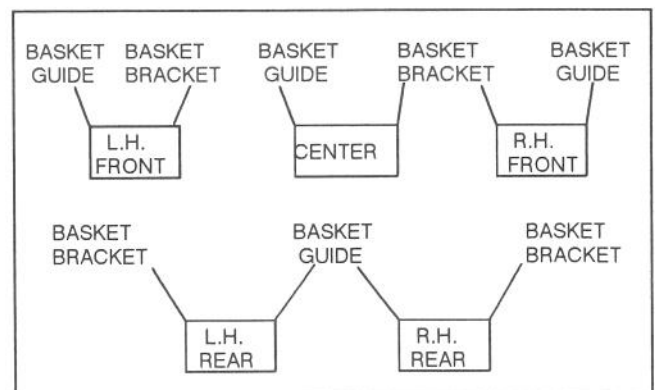
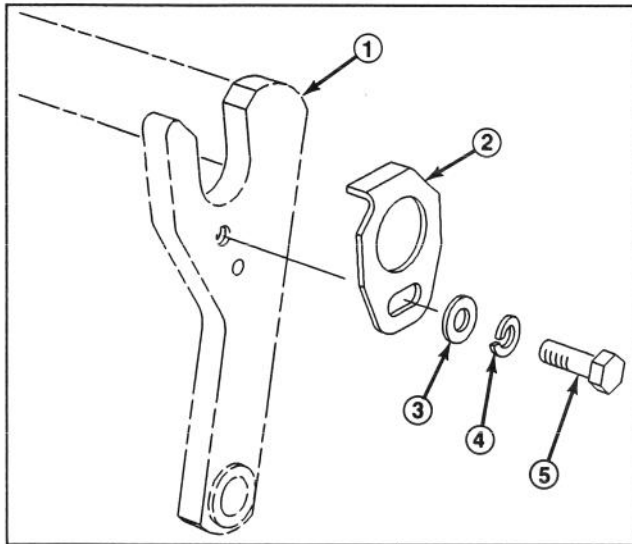
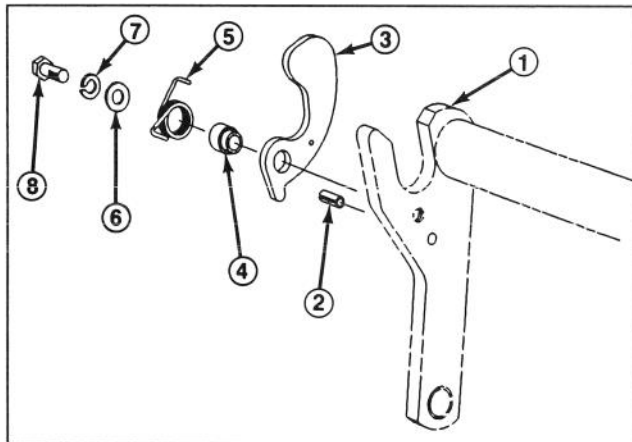
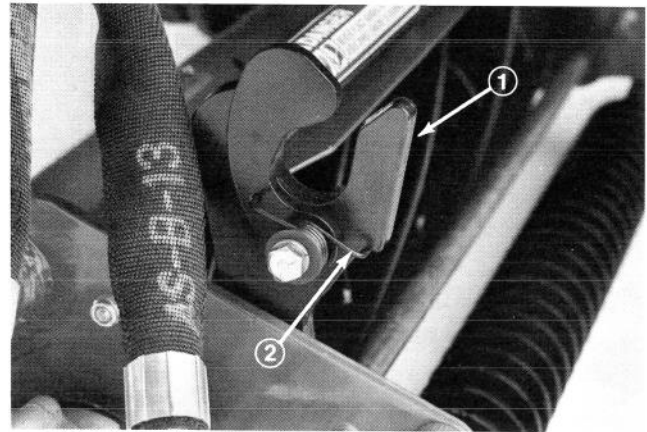

Figure 7
Figure 8
Figure 9
Figure 10
2. Using chart below (Fig. 7) determine the locations at which basket guides or basket brackets must be mounted to cutting unit carrier frames.
3. Mount a basket guide (Fig. 8) to the appropriate side of each cutting unit carrier frame (see figure 7) with a capscrew (5/16 x 1/2" lg.), flatwasher and lockwasher as shown in figure 8.
4. Install a roll pin (Fig. 9) into hole in appropriate side of each cutting unit carrier frame (Fig. 7).
5. On the same side of carrier frame as roll pin is installed, mount a basket bracket with a 5/16 x 1-1/2" lg. capscrew, lockwasher, flatwasher, torsion spring, basket collar as shown in figure 9. Torsion springs are different for L.H. and R.H. sides of carrier frames. Three are (2) L.H. and (3) R.H. springs. Longer leg of spring is to be positioned forward as shown in Fig. 10.